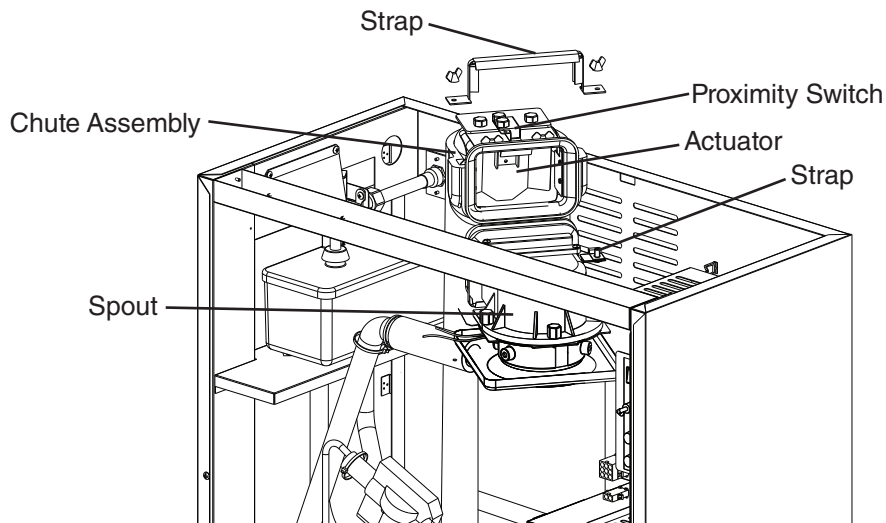

Fig. 14
- 3) Remove the strap connecting the spout to the chute assembly. See Fig. 14. Pull up the chute assembly slightly so that you can access the actuator located in the top of the chute.